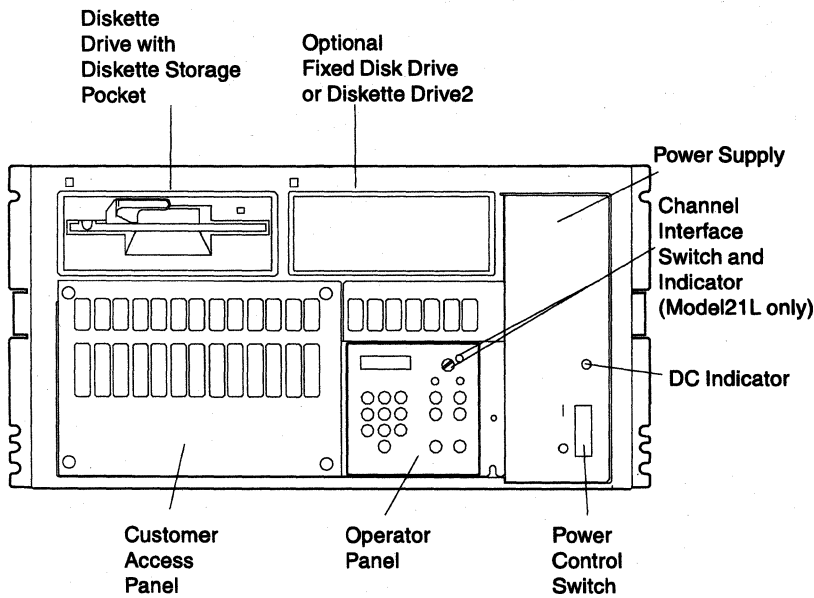

Figure 1-2. 3174 Models 21H, 21L, 21R, 22L, 22R, 23R, and 24R
- 21H, 21L, 21R, 22L, 22R, 23R, and 24R. See Figure 1-2 on page 1-4.